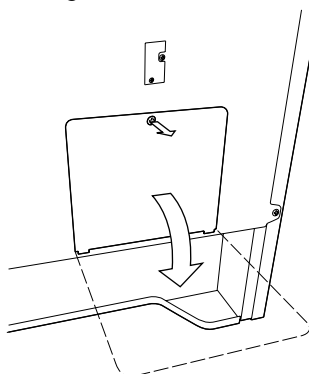

Figure 6
Loosen screw on rear access cover and pull down as illustrated in Figure 6 to access terminal block wiring connection. To close, return to original location and secure screw.
- 5 Make sure all screws are tightened securely and replace the rear access cover. See Figure 6.